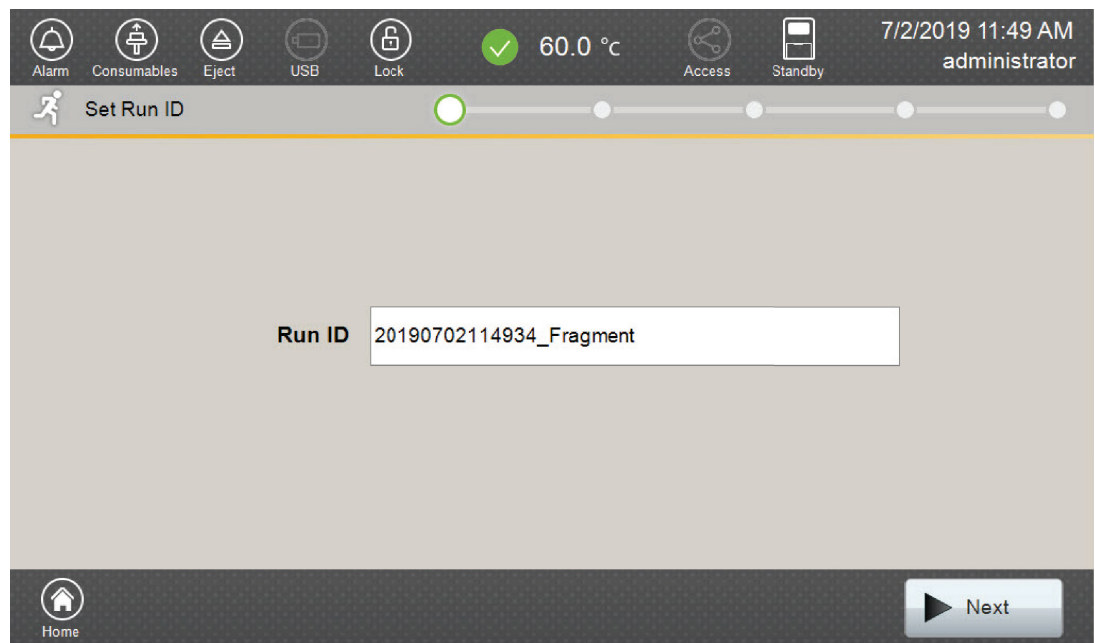

Figure 7. ‘Set Run ID’ screen.
- Use the default name that includes date, time and “Fragment” or enter a Run ID on the ‘Set Run ID’ screen (Figure 7). Select the Run ID box to open the ‘Run ID’ window and a keypad will become active on the touch screen. Alternatively, the Run ID can be entered using a traditional keyboard if one is connected to the Spectrum Compact CE System.